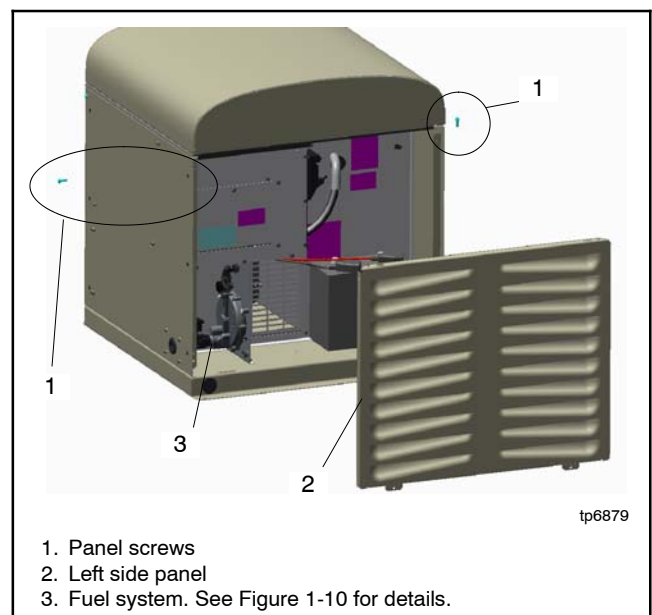

Figure 1-11 Remove Left Panel
5. Remove panel screws and remove the left side louvered panel. Figure 1-11.